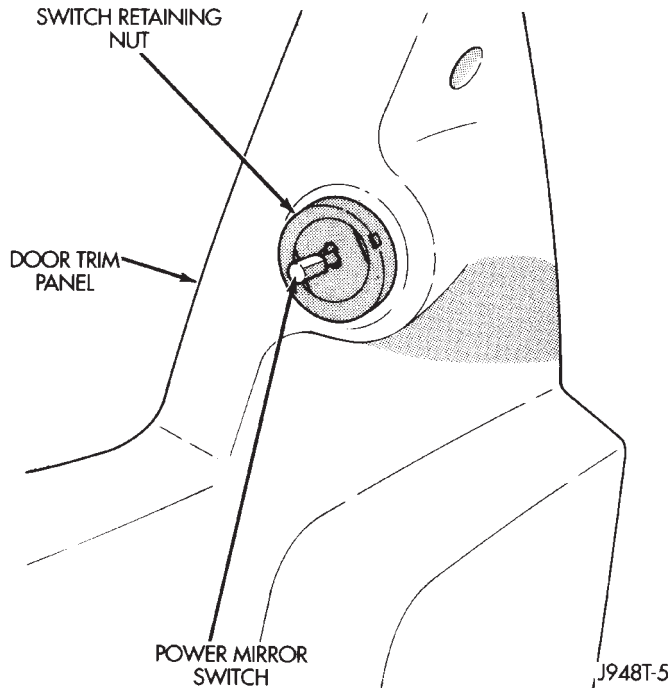

Fig. 4 Power Mirror Switch Nut - Typical
(3) Remove the nut that secures the power mirror switch to the driver side door trim panel (Fig. 4).
(4) Remove the trim panel from the inside of the driver side front door. Refer to Group 23 - Body for the procedures.
(5) Pull the trim panel away from the inner door panel far enough to access the power mirror switch wire harness connector.